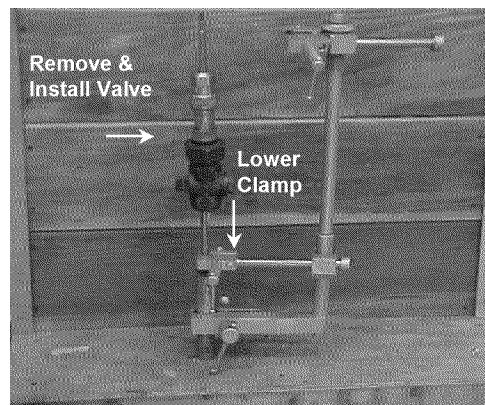

Figure 4
13. Remove upper/rear clamp and remove valve and stuffing box assembly, then re-inspect threads, rethread if necessary. (Fig. 4)